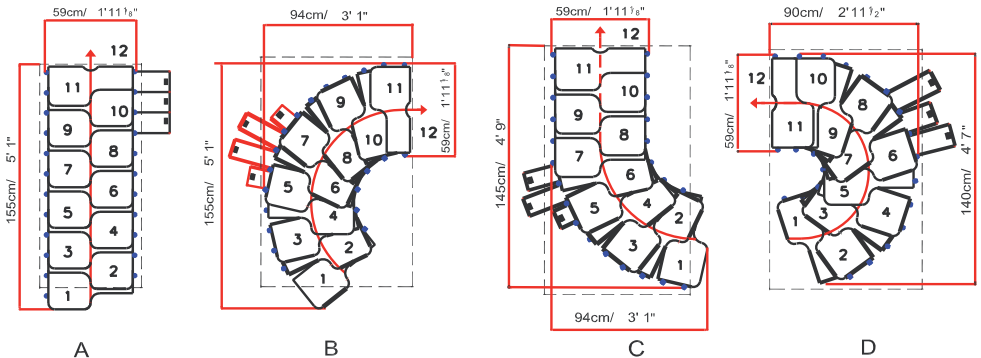

FIG. 5
- Set out with a pencil, at the connection point of two supports, two vertical lines at a distance of 9 mm (0,35") (to rotate 13°, configuration B or C) (fig. 5) or 13 mm (0,51") (to rotate 18°, configuration D) (fig. 6).